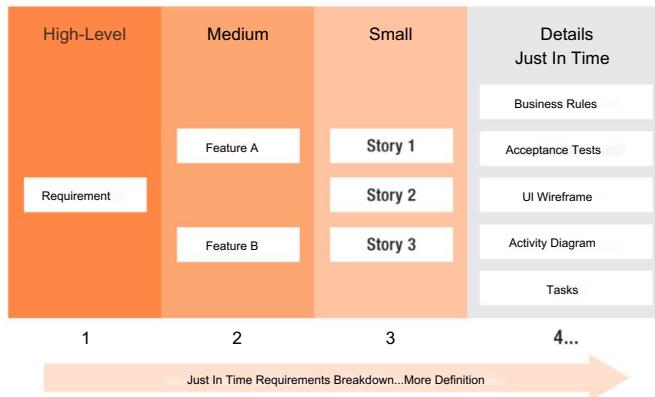

FIGURE 7.14 Levels of agile requirements
Think about it. The following is agile scope decomposition, illustrated. Figure 7.14 shows levels of agile requirements. Following the figure, the sections of the illustration (numbered for convenience) are explained in greater detail. Then, walk through an agile project in your mind, using the health clinic client portal case as an example.
- Details Each story needs to be broken further by various types of requirements, some of which are depicted in figure 7.14. The breakdown is described as *just in time* because agile teams wait for the *last responsible moment* to make sure they have all the details to build a story. The last responsible moment is the moment at which story decomposition has reached its logical conclusion and the most information is available about what needs to be done to build a story.